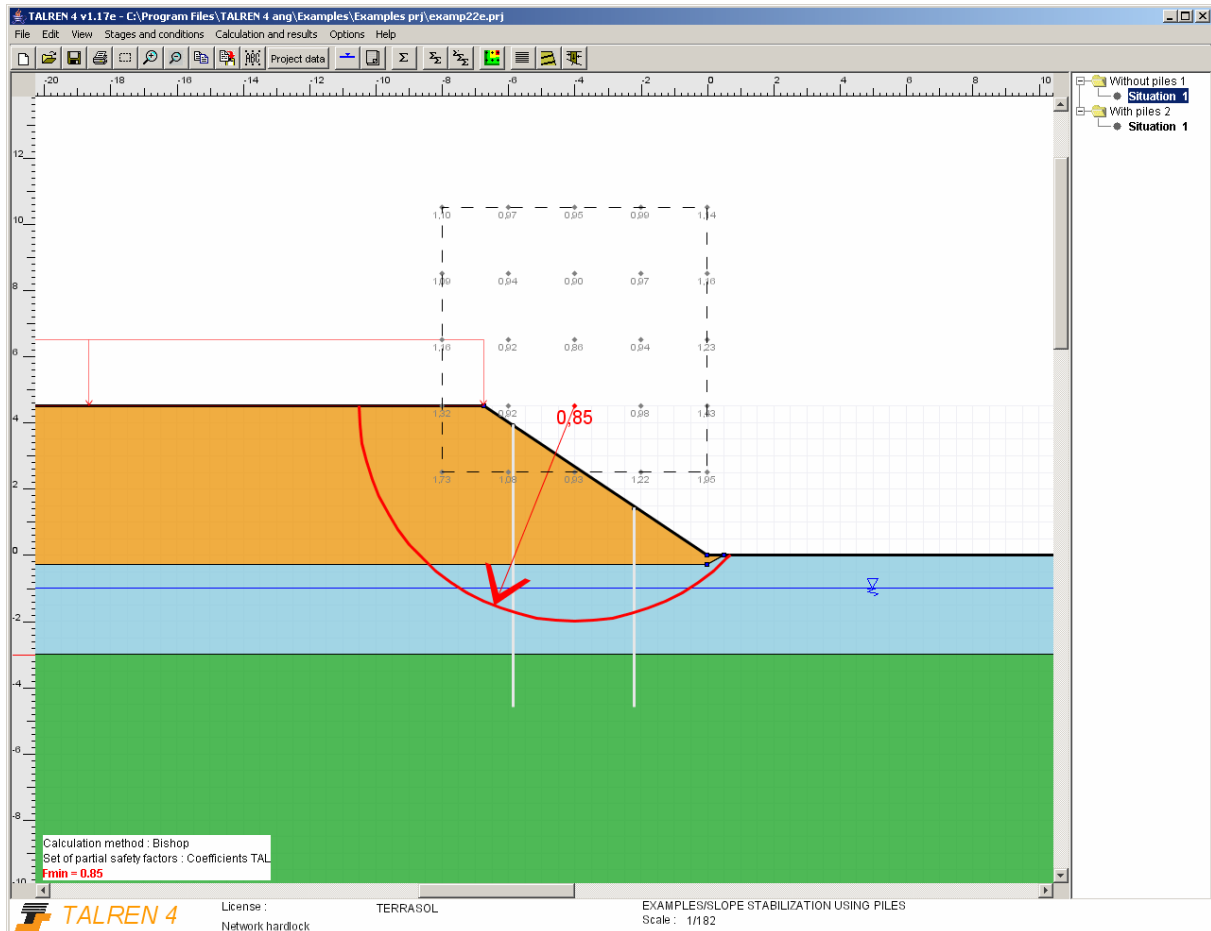

Figure 59: examp22e.prj file, default output, stage 1 / situation 1
- Calculate the situation of stage 1: click for example on the toolbar button . The results are displayed on Figure 59. The calculation provides  $F_{\min} = 0.85$  (unstable slope).